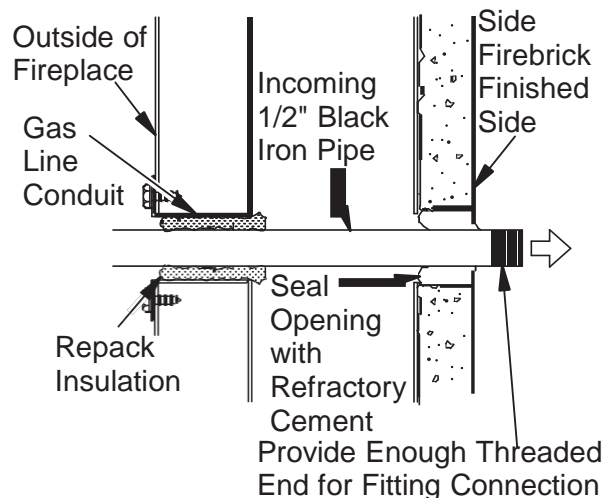

Figure 20 - Gas Line Installation
3. Run a 1/2" black iron gas line into the fireplace through the rear at gas line conduit sleeve (if using a raised platform, add height). Provide sufficient gas line into fireplace chamber for fitting connection (see Figure 20). Note: Secure incoming gas line to wood framing to provide rigidity for threaded end.